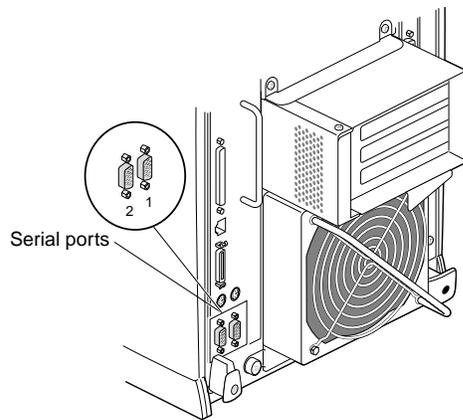

Figure 6-12 Locating the Serial Ports on the System Module
1. Locate the serial ports on the back of your workstation, as shown in Figure 6-12. Serial ports are labeled **1** and **2** and are DB9 connectors.